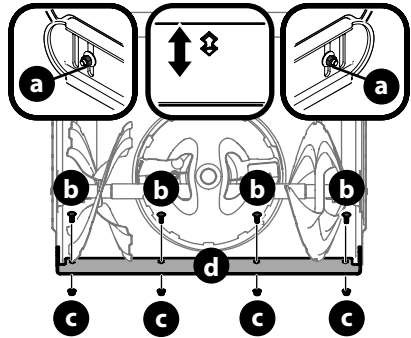

Figure 46
- Loosen rear skid shoe nuts (a) on both sides of auger housing and remove carriage bolts (b) and hex nuts (c) which attach shave plate (d) to the bottom of the auger housing (Figure 46).
- Adjust the shave plate to one of 2 mounting positions. Reinstall and securely tighten all carriage bolts, nuts and skid shoe hardware from Step 3 (Figure 46).